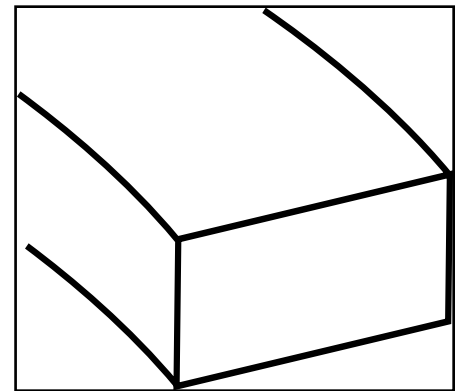

Figure 4
- If ring has no dots and no bevel, it can go either way. **See Figure 4.**